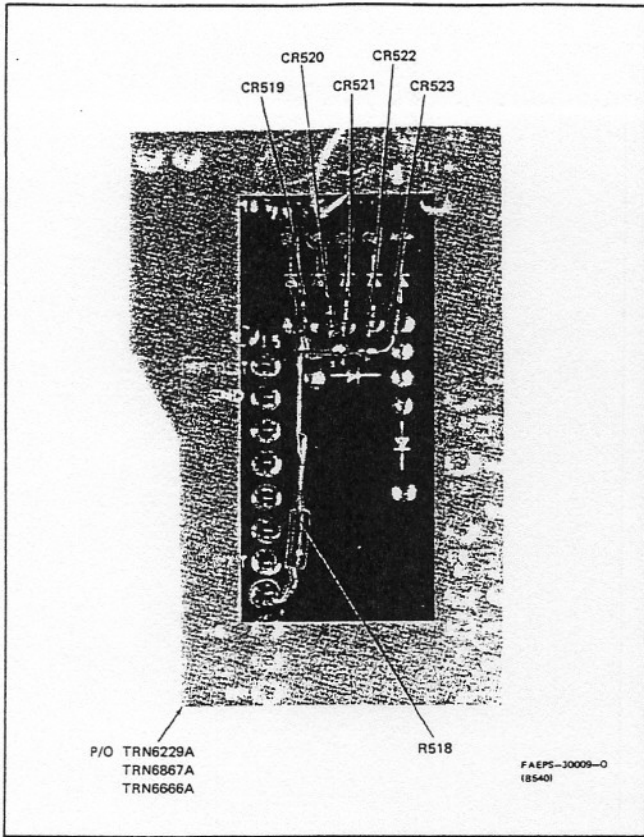
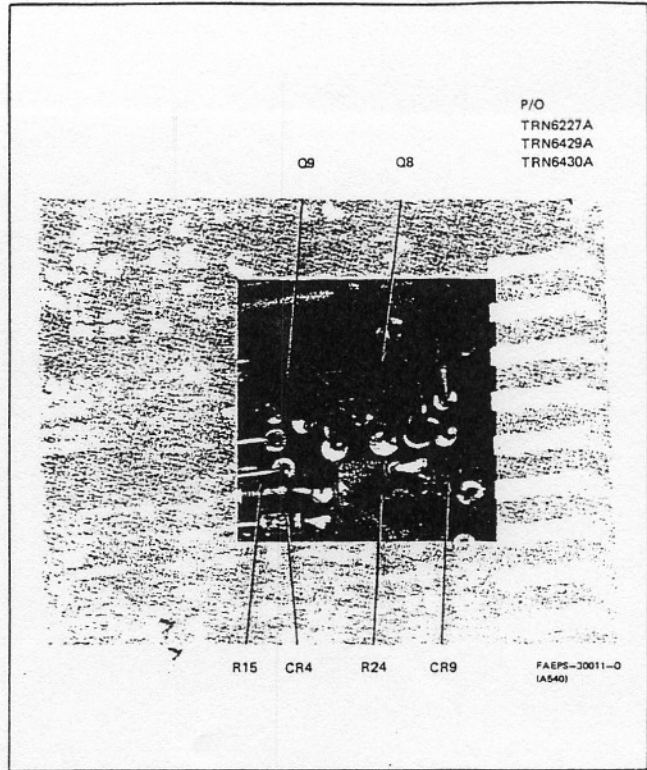

Figure 4.
Figure 6.
(Refer to Table 2 and to Figures 4 thru 7.)
The TRITON 12 and 24 channel radio modifications consist of changes made on two separate circuit boards. The first modification is done to the main circuit board by addition of components listed in Table 2. Figures 4 and 5 illustrate where these components are installed. The second modification is done to the transmit/receive switch circuit board by the addition of components listed in Table 2. Figures 6 and 7 illustrate where these components are installed.
Step 2. Select the components (CR519 thru CR523 and R518) listed in Table 2, and install the diodes and resistor as illustrated in Figure 4. Use sleeving on the component leads.
Step 5. Select the components (CR9 and R24) listed in Table 2, and install the diode and resistor as illustrated in Figure 6.